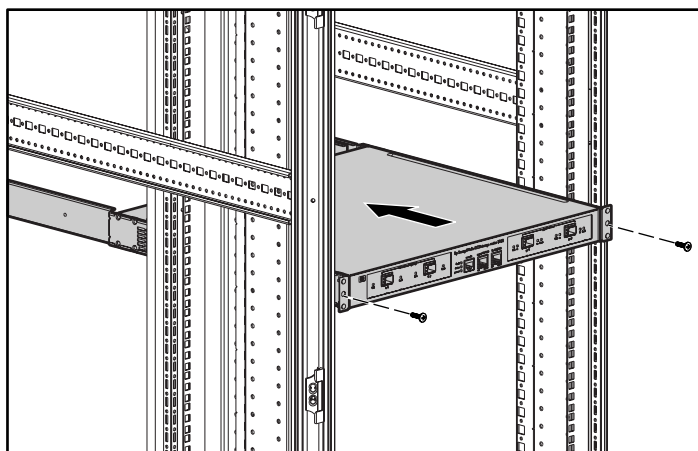

Figure 11 : Installation du routeur de stockage dans le rack
7. Slide the storage router into the rack and fix it to the front of the rails using the rack screws (refer to Figure 11).